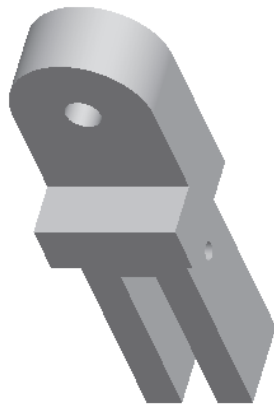

Figure 5-71 Completed model for Tutorial 1
6. Choose the **Build feature** button from the **Extrude** dashboard. Turn the model display to shaded by choosing the **Shading** button from the **Model Display** toolbar. The trimetric view of the model is shown in Figure 5-71.